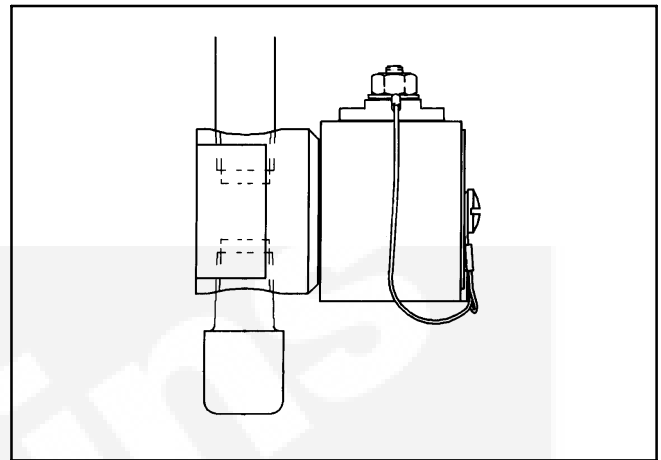

FIGURE 8-26. FUEL-SHUTOFF SOLENOID VALVE
**Leak Test:** See Figure 8-26. If there is a smell of gas when the genset is not running, or any other reason to suspect that the valve is leaking, connect the inlet of the valve to a source of air pressure regulated to not more than 14 inches WC and disconnect the outlet hose. Replace the solenoid if it leaks, as checked by a soap bubble.